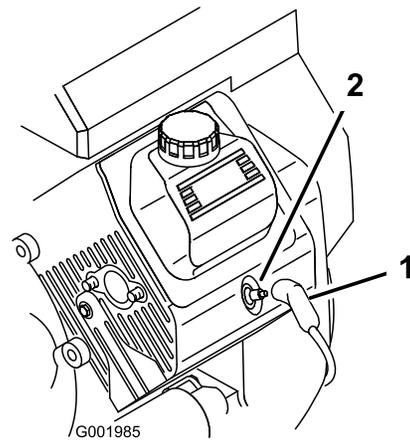

Figure 29
3. Pull the wires off the spark plugs (Figure 29).
3. Push the wires onto the spark plugs (Figure 29).